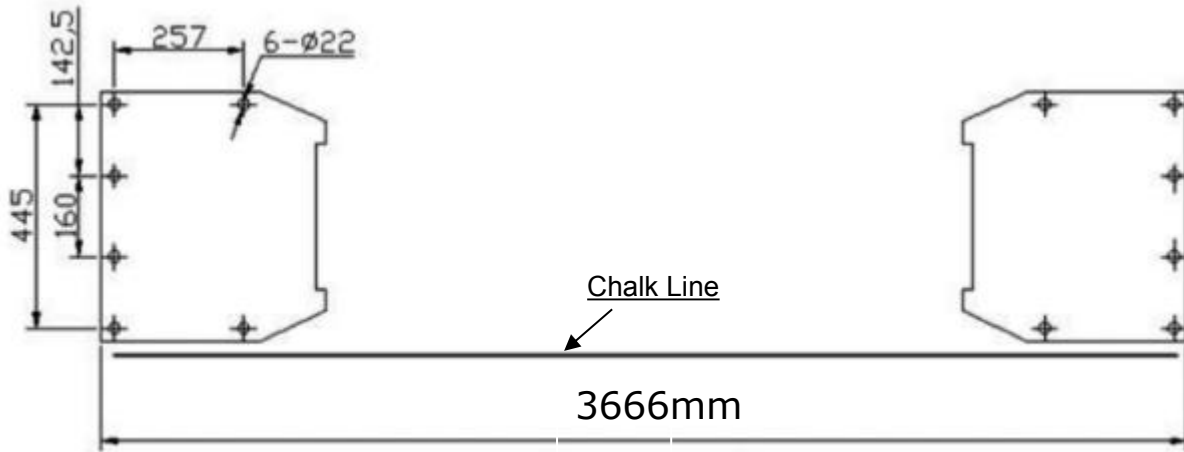

Fig.6
B. Use a carpenter's chalk line to establish installation layout of base plate (**See Fig. 6**).